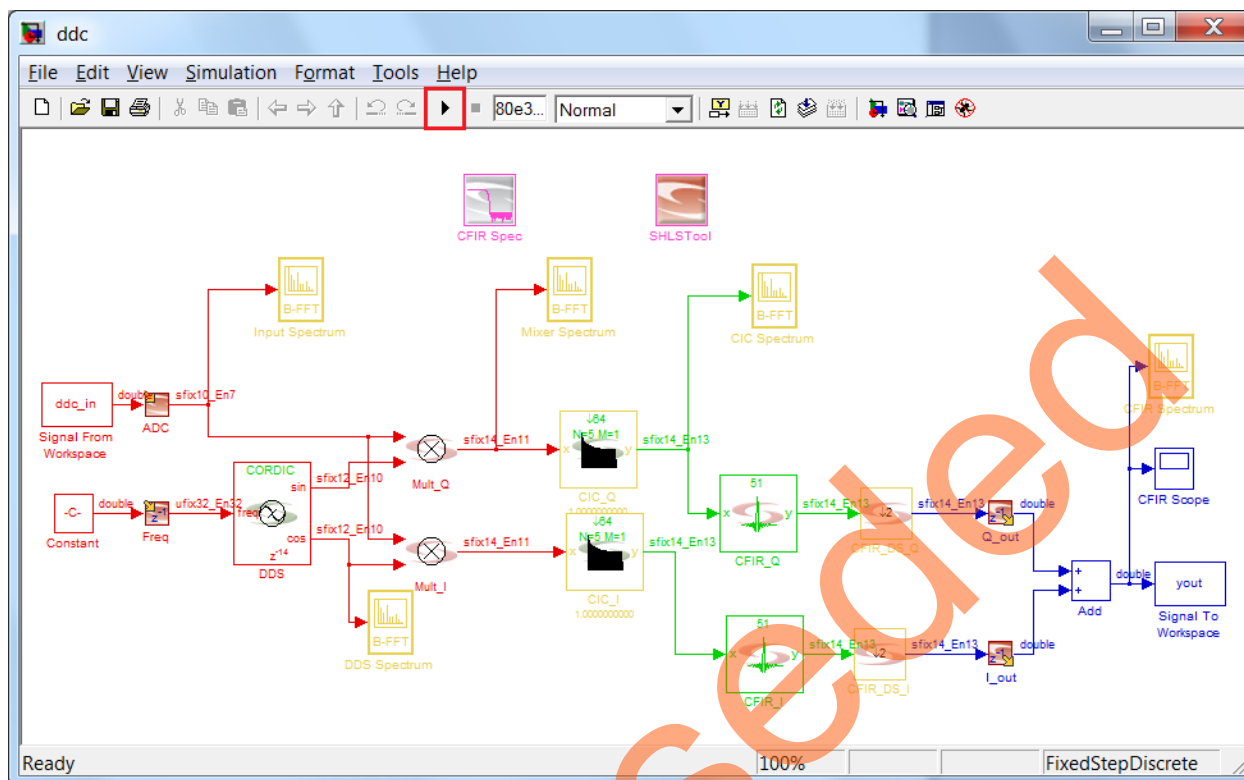

Figure 5. DDC Design After Simulation
- Click the arrow button to simulate the design, as shown in Figure 5. The spectrums can be viewed in the scope.